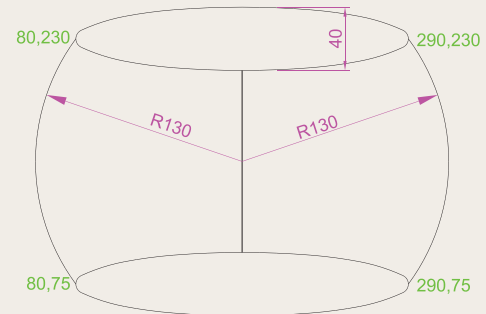

Fig. 3.47 Exercise 3
3. Using the **Ellipse** and **Arc** tools construct the drawing shown in Fig. 3.47.